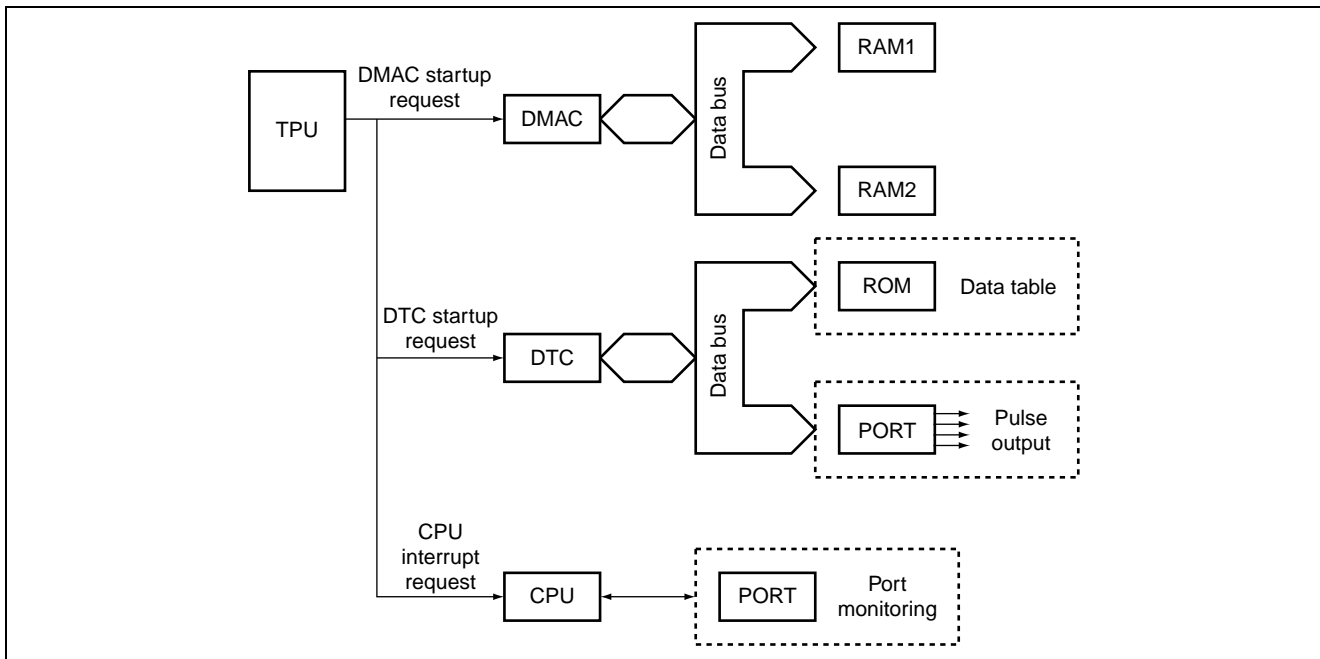

Figure 2 Block Diagram of Simultaneous Startup of DTC, DMAC, and CPU
A. The block diagram of H8S/2215 internal functions that this sample task uses is shown in figure 2.